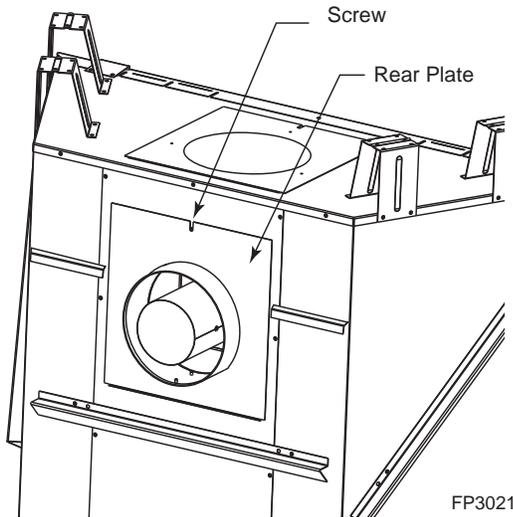

Figure 8 – Remove Rear Plate
1. Remove the rear plate by removing one (1) screw. Set aside. *Figure 8*